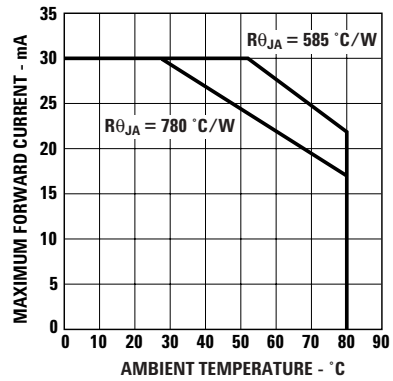

Figure 8. Forward current vs. ambient temperature.
1. Derate linearly as shown in Figure 4 and Figure 8.